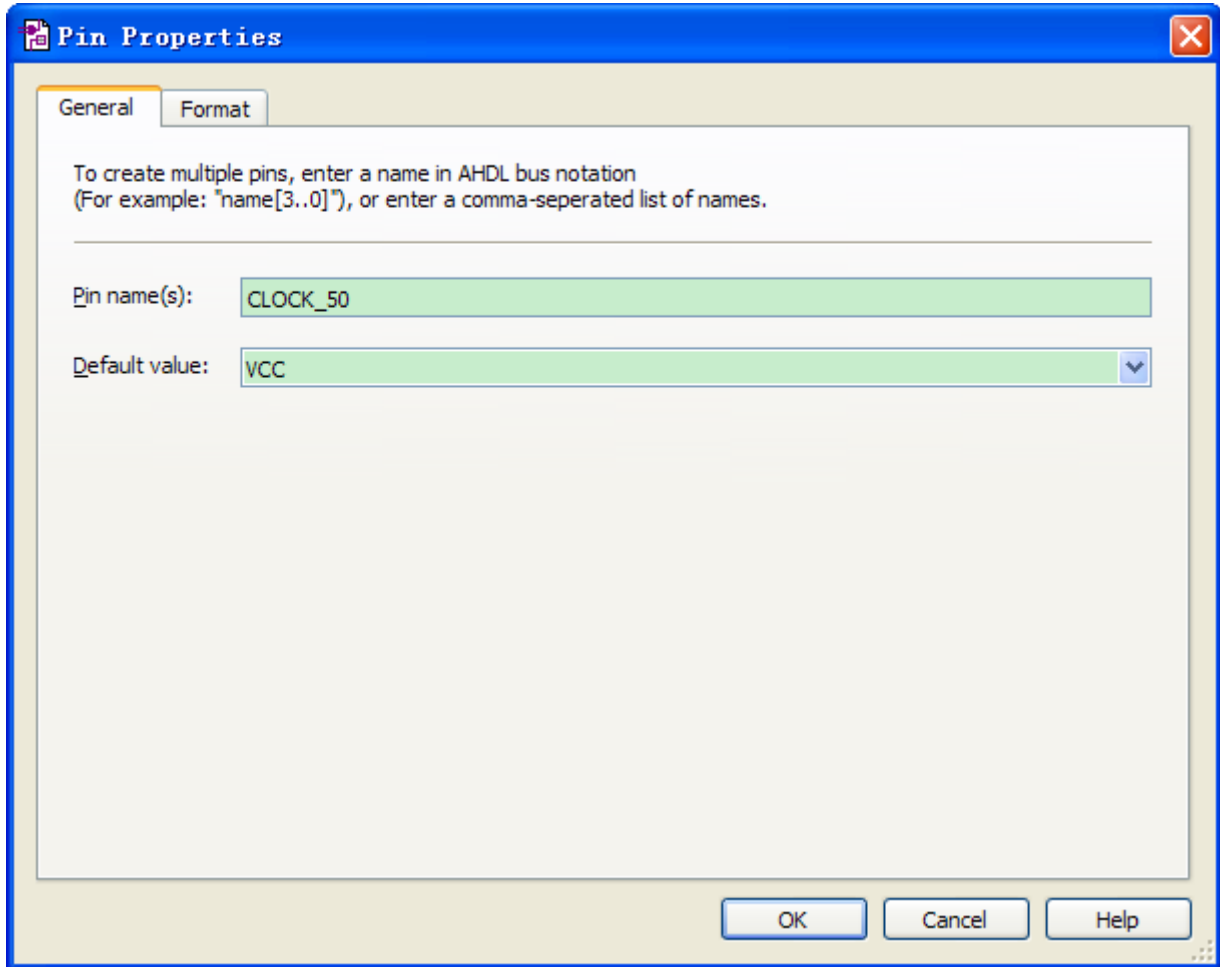

Figure 6-30 Change the input port name
- f. Change the pin name by double-clicking pin_name and typing CLOCK_50 (see **Figure 6-30**). This name correlates to the oscillator clock that is connected to the FPGA.